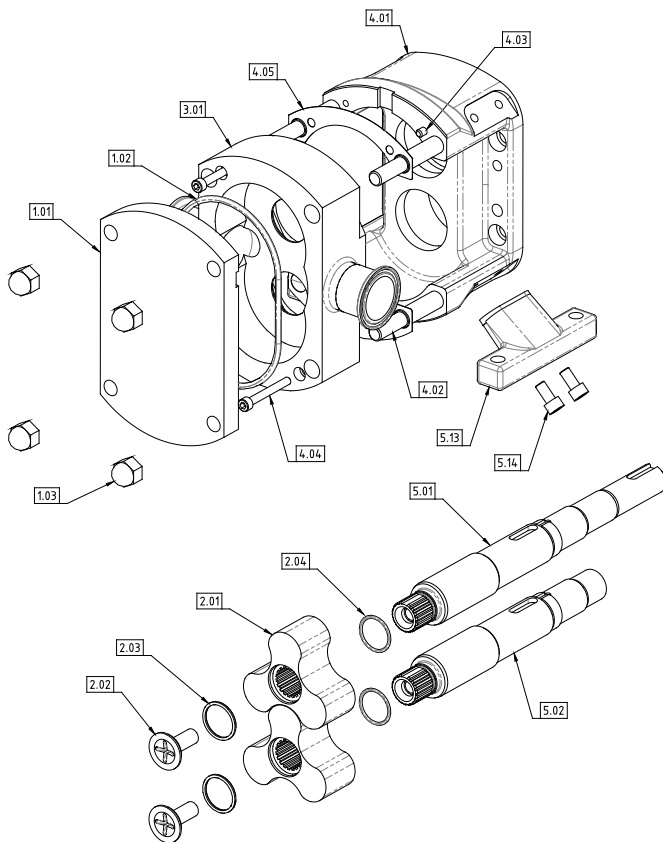

Figure 16
- For CP20 Pump – refer to Figure 16.
(After completing section 4.1.1) - see Figure 16.